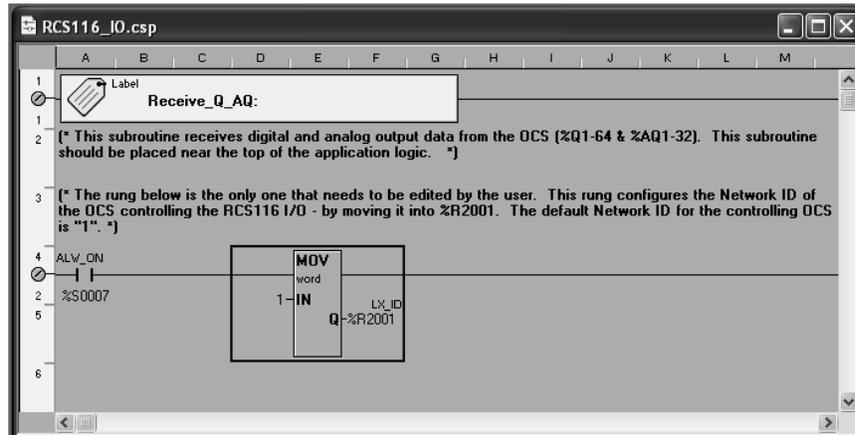

Figure 4.2 – Setting the Node ID in Rung 1
- Edit the Move Function Block in Rung 1 (see Figure 4.2 below). This rung copies the CAN_ID assigned to the LX into register %R2001 in the RCS116. For instance, if the LX is node 1, move a value of 1 to %R2001.